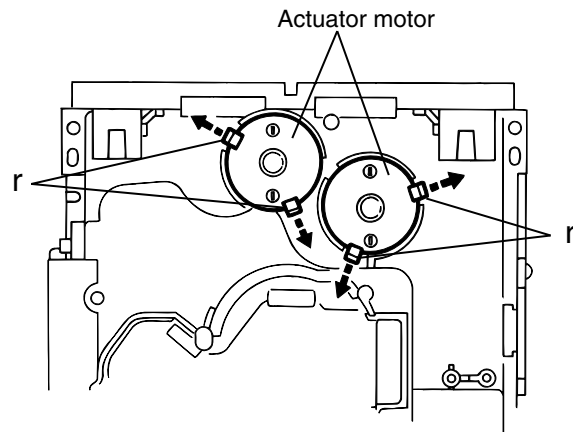

Fig.21
5. After turning over the chassis assembly, remove the actuator motor while spreading the four pawls **r** fixing the right and left actuator motors in the arrow direction(See Fig. 21).